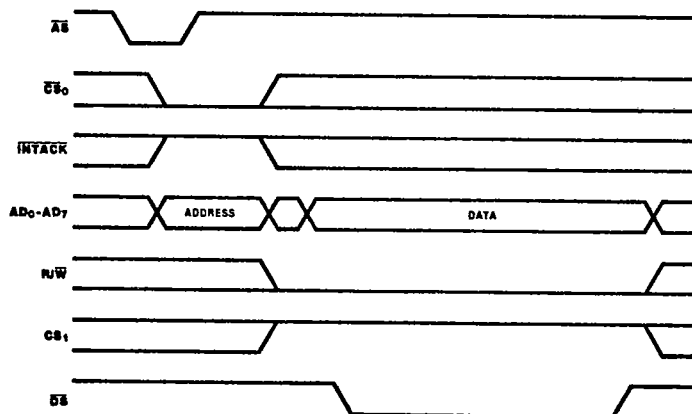

Figure 16. Write Cycle Timing
**Write Cycle Timing.** Figure 16 illustrates Write cycle timing. The address on  $AD_0-AD_7$  and the state of  $\overline{CS}_0$  and  $\overline{INTACK}$  are latched by the rising edge of  $\overline{AS}$ .